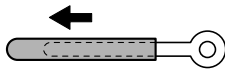

Fig. 1
1. Remove the plastic part (shaded in the figure) of the flat cable bracket in the arrow direction. (Fig. 1)
1. 束線止めのビニール(斜線の部分)を矢印の方向に取り外します。(Fig.1)